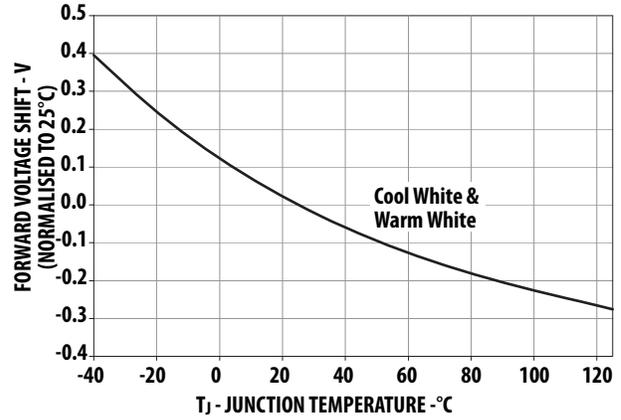

Figure 11. Forward voltage shift vs. junction temperature.
1. Derate linearly based on Figure 11.